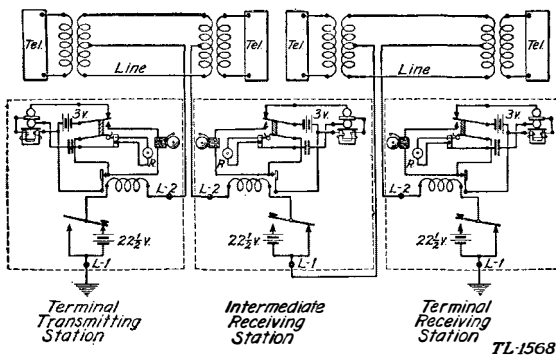

FIGURE 10.—Telegraph set TG-5—three stations connected to a simplex telephone circuit.
*b. As intermediate station on ground-return circuit.*—No ground connection is necessary at an intermediate station. Connect the line leading to one terminal station to L1 and the line leading to the other terminal station to L2. As in *a*(2) above, these lines may be either lines which are to be used exclusively for telegraph or they may be telegraph legs of simplex telephone circuits. Figure 10 shows three stations, two of which are terminal stations and one an intermediate station, connected to a simplex telephone circuit containing two terminal telephones and one intermediate telephone.
*d. As intermediate station on metallic circuit.*—At an intermediate station, cross-connect one of the wires leading to one terminal station to one of the wires leading to the other terminal station. Connect the other two wires to L1 and L2 as in *b* above. This places the intermediate set in series with the circuit and not across it. If the set is connected improperly, or across the circuit, the sets on the circuit will not operate satisfactorily. (See fig. 10.)
**22. Adjusting relay.**—*a. General.*—(1) Since the resistance of the relay is fixed, it is necessary to adjust the armature so that it will make and break its contacts properly with various values of current flowing through the relay winding. The resistance of the
(1) Add another battery BA-2 in series with the line battery.
(2) Call the other station, inform it that the line battery has been increased to 45 volts, request it to increase its line battery to the same value, and to transmit for a further test.
(3) Adjust the relay as directed in paragraph 22*c*.
(4) Add more line batteries if necessary, but see *b* below.
*b. Amount.*—It is possible to cause serious damage to the set by adding an excessive amount of line battery. (See fig. 10.) If the keys of two or more sets are depressed simultaneously, the combined voltage of the line batteries of all these sets may be impressed upon the series circuit containing all of the relays. Although the relay winding will withstand relatively high voltages without injury, keep the line current as low as practicable because the relay works much better at lower current values, interference troubles are less, and interception is more difficult. Add only enough voltage to assure satisfactory operation, and no more.